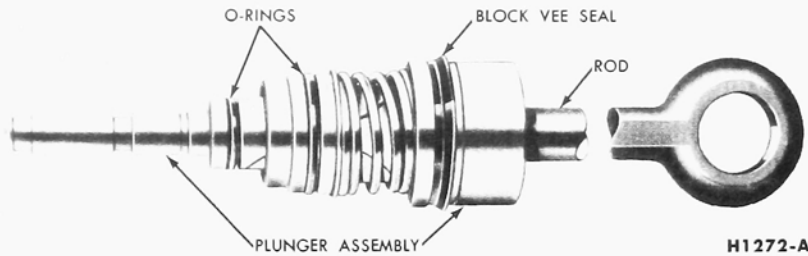

FIG. 31—Valve Operating Rod and Plunger Assembly
14. Remove the O-rings and the “Block Vee” type seal from the valve plunger (Fig. 31).
2. Install the “Block Vee” type seal and the O-rings on the valve plunger assembly (Fig. 31).